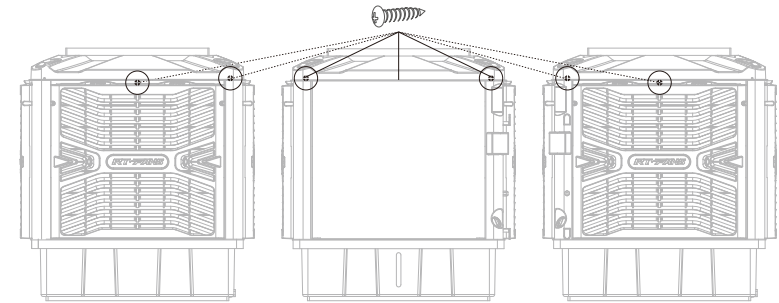

图4.4 / fig4.4
- 拧开两侧位置的6颗螺丝，取出送风弯头，脚轮，安装螺丝，以及《安装与操作说明》和《产品合格证》。（适用于中文用户；如图4.4）
- Unscrew the 6 screws on both sides, take out the elbow air duct, casters, installation screws. (*Installation & Operation Manual* and *Certificate* are inside the cardbox; fig4.4)